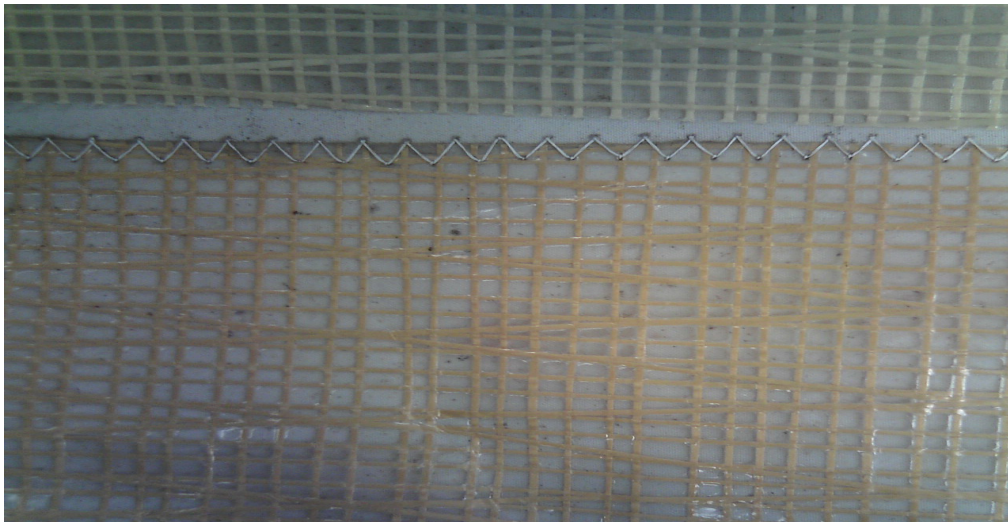

Fig 1, X-05 material. Top strip is new (bright yellow fibres) Bottom strip is degraded (gold/brown).
a) Aramid type X-05, which is made of yellow/gold cords woven in a cross pattern with additional diagonal cords sandwiched between transparent mylar films (see fig 1). This is the type which failed when degraded.